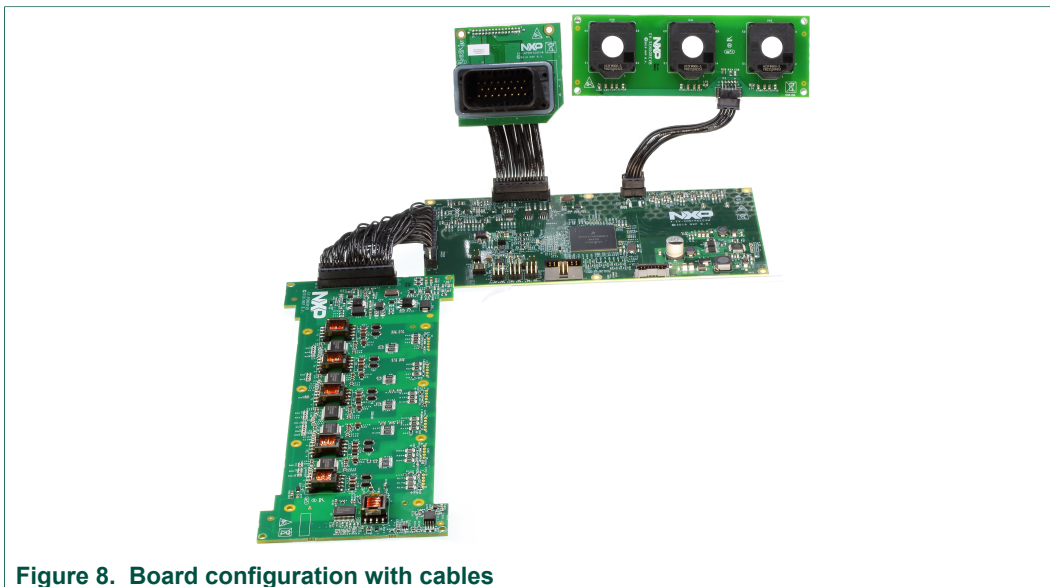

Figure 8. Board configuration with cables
5. For running a motor in a closed loop motor control, connect the EV-SENSOREVB board to the EV-CONTROLEVM with the 10-pin harness. See Figure 8.
6. Connect the EV-POWЕРЕVB to the EV-CONTROLEVM with the 40-pin harness. See Figure 8.
7. Connect the EV-INTERFACEVB to the EV-CONTROLEVM with the 30-pin harness. See Figure 8.